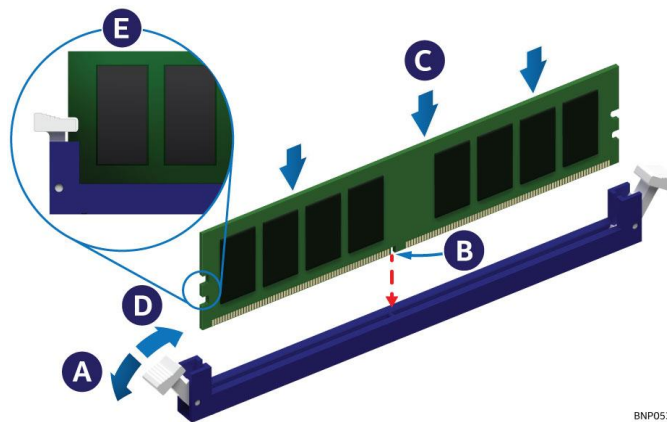

Figure 19. Memory Module Installation
3. Install the memory module to the server board (see Figure 19)